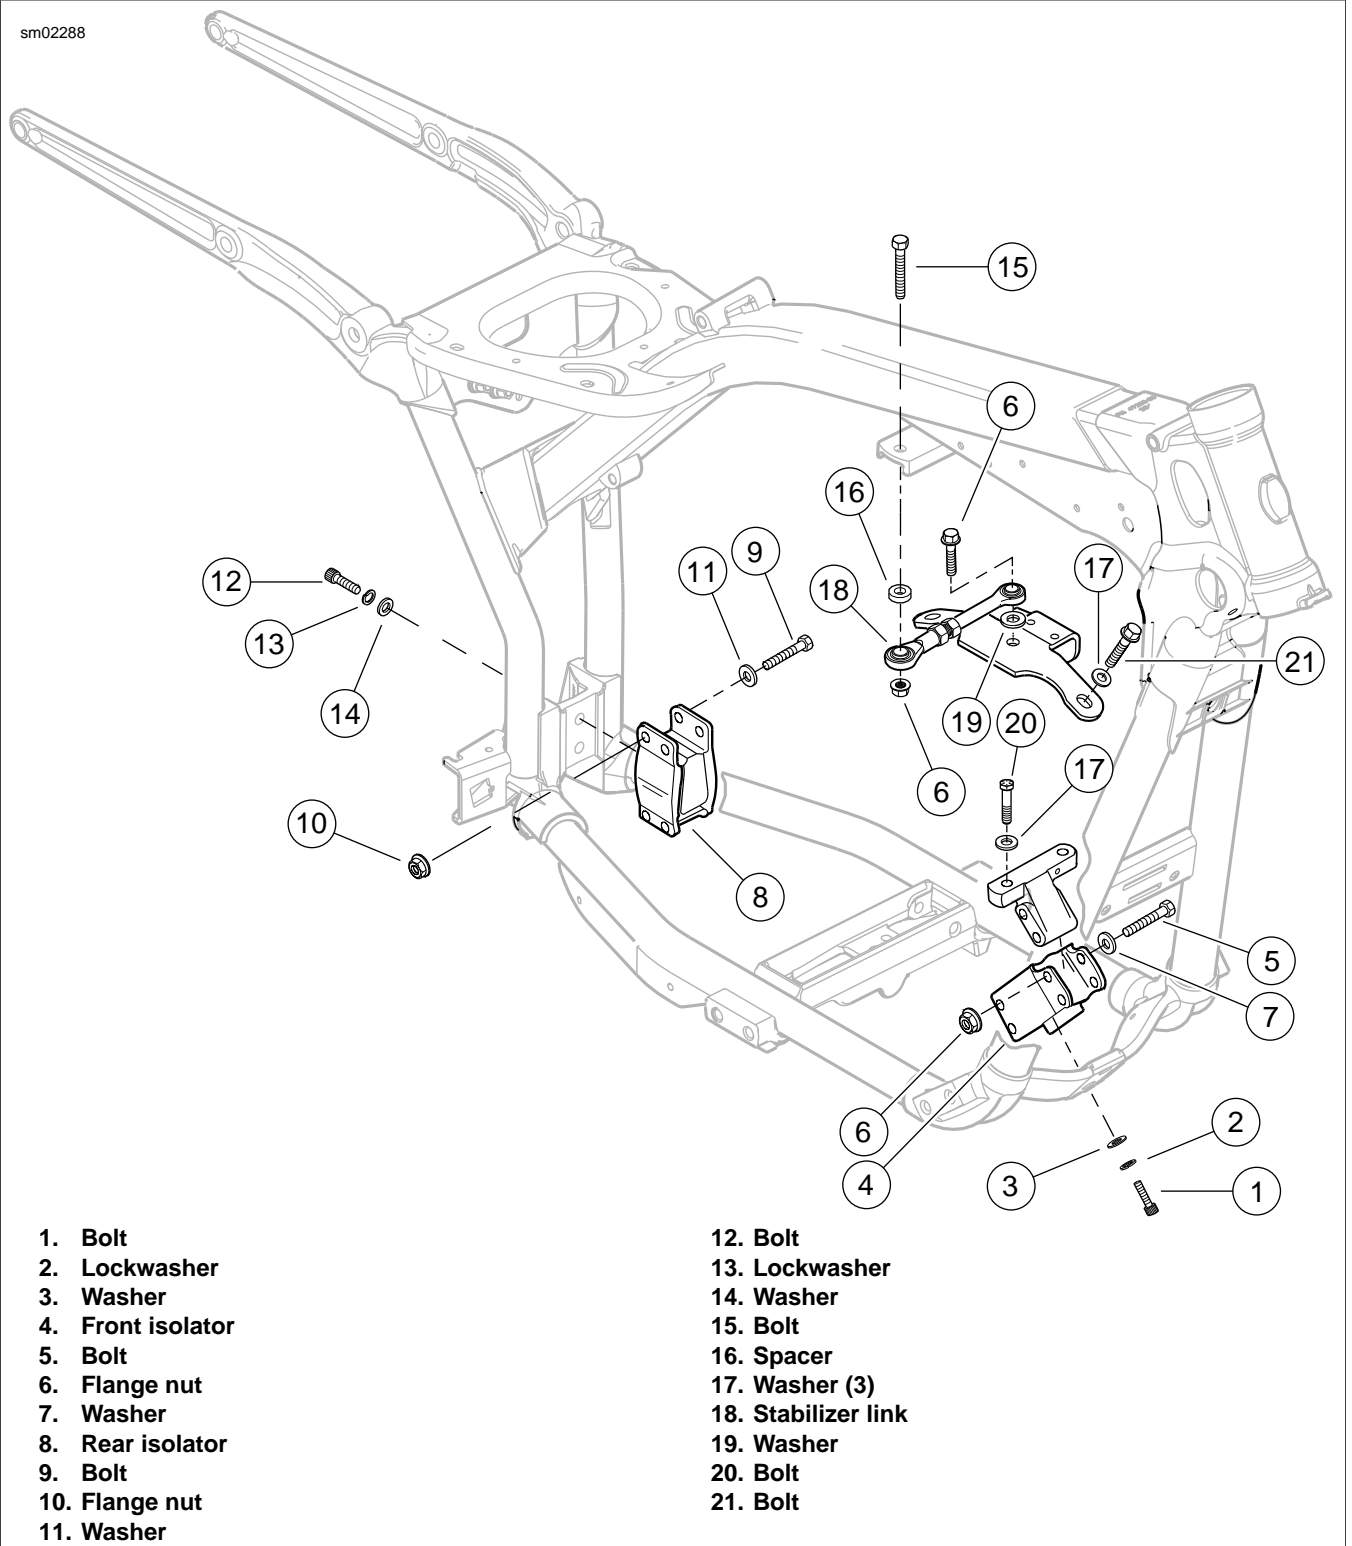

Figure 2-116. Engine Mounts
2. See Figure 2-116. Remove bolts (1) lockwashers (2) and washers (3) securing front isolator (4) to frame.
3. Remove bolts (5), flange nuts (6) and washers (7). Remove front isolator (4).
2. See Figure 2-116. Place front isolator (4) in position on frame and install bolts (1) lockwashers (2) and washers (3). Tighten bolts to 21-27 ft-lbs (28-36 Nm).
3. Install bolts (5), flange nuts (6) and washers (7). Tighten flange nuts to 21-27 ft-lbs (28-36 Nm).